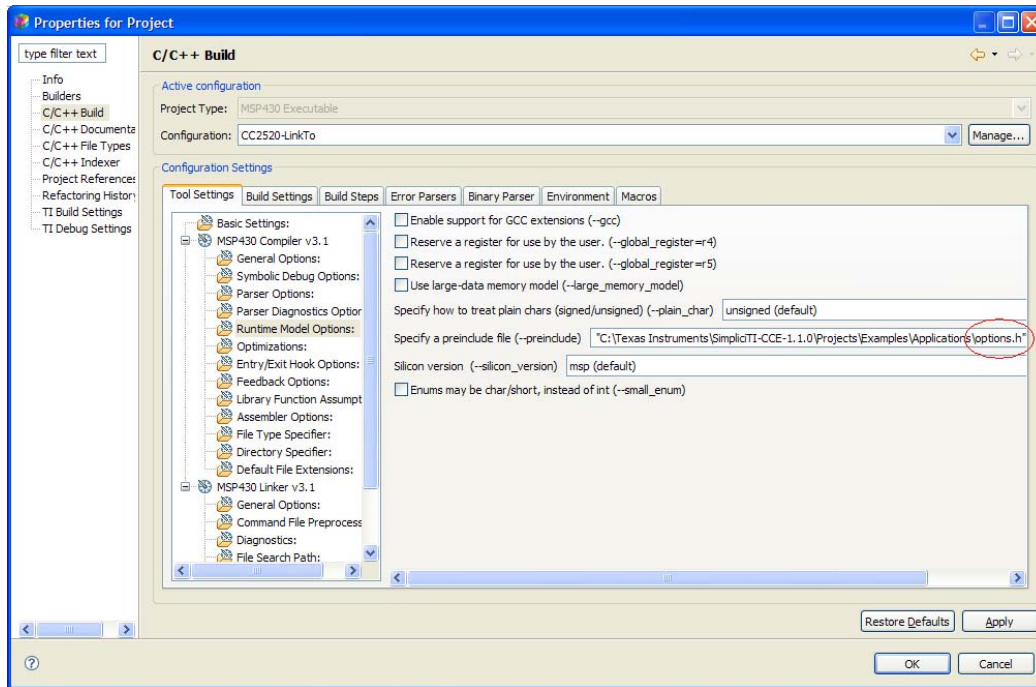

Figure 3. Specifying a preinclude file in CCE.
- d. Specify `options.h` as a preinclude file by entering the file location or browsing for the file (Figure 3).